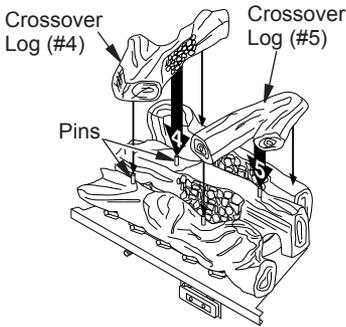

Figure 44 - Installing Crossover Logs (#4 & #5) [CGEFP Logs Shown]
4. Place left crossover log (#4) across logs #1, #2 and #3 fitting holes on bottom of log #4 onto pin on front and middle logs as shown in Figure 44.
5. Place right crossover log (#5) in the same manner on right side of logs (see Figure 44, page 25).